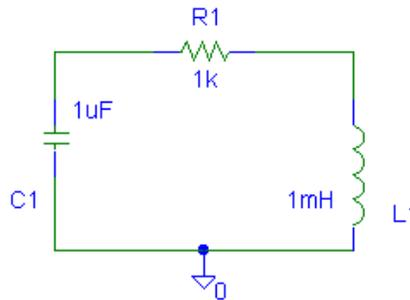

Figure D-2.
*Damped Oscillation:* The circuit we modeled above is unrealistic because it has no resistance at all. This is analogous to a mechanical system with no friction. To make a more realistic system, we must add some resistance, as shown in Figure D-2.